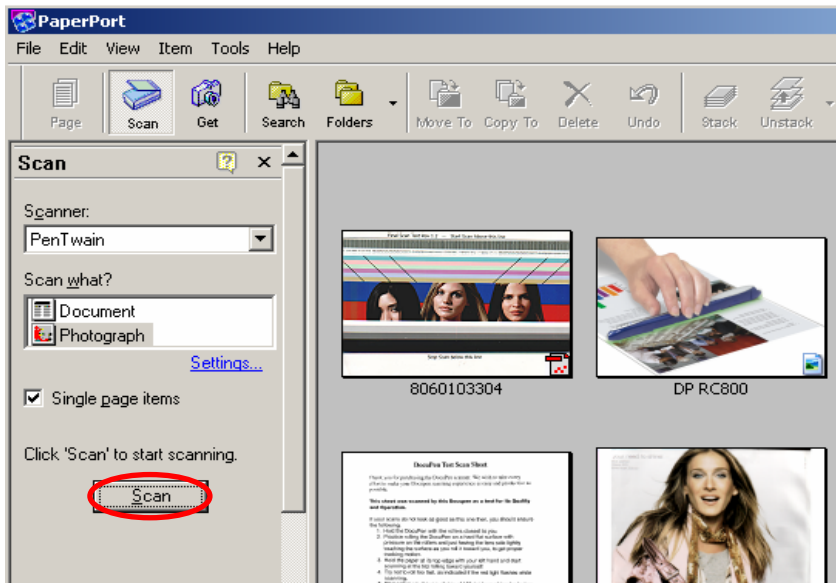
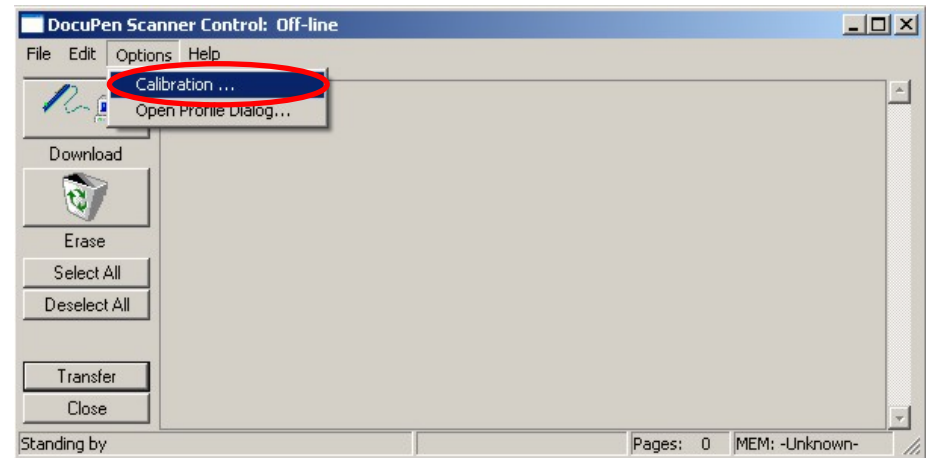

Fig 1
Fig 2
2. Start the Paperport software. (Fig 1)
3. Press and hold the **left Shift and Ctrl keys** on your keyboard and then click the **Scan** button within the Paperport window. (Fig. 1) The **DocuPen Scanner Control** window will appear with the **Calibration** function enabled. (Fig. 2)
4. In the **DocuPen Scanner Control Window**, click on **Options** and select the **Calibration** function (Fig. 2). If you don't see the **Calibration** function please redo step 3.
2. Start the **DocuPen Application** with the **Calibration** function enabled – You can start the **DocuPen Application** by clicking on the **Start** button of your Windows Operating System then select **Programs**, then **Planon**. Now press and hold the **left Shift and Ctrl keys** on your keyboard and then click on **DocuPen** (Fig. 1) The **DocuPen Scanner Control** window will appear with the **Calibration** function enabled. (Fig. 2)
3. In the **DocuPen Scanner Control** window, click on **Options** and select the **Auto Calibration** function (Fig. 2). If you don't see the **Auto Calibration** function please redo step 2.